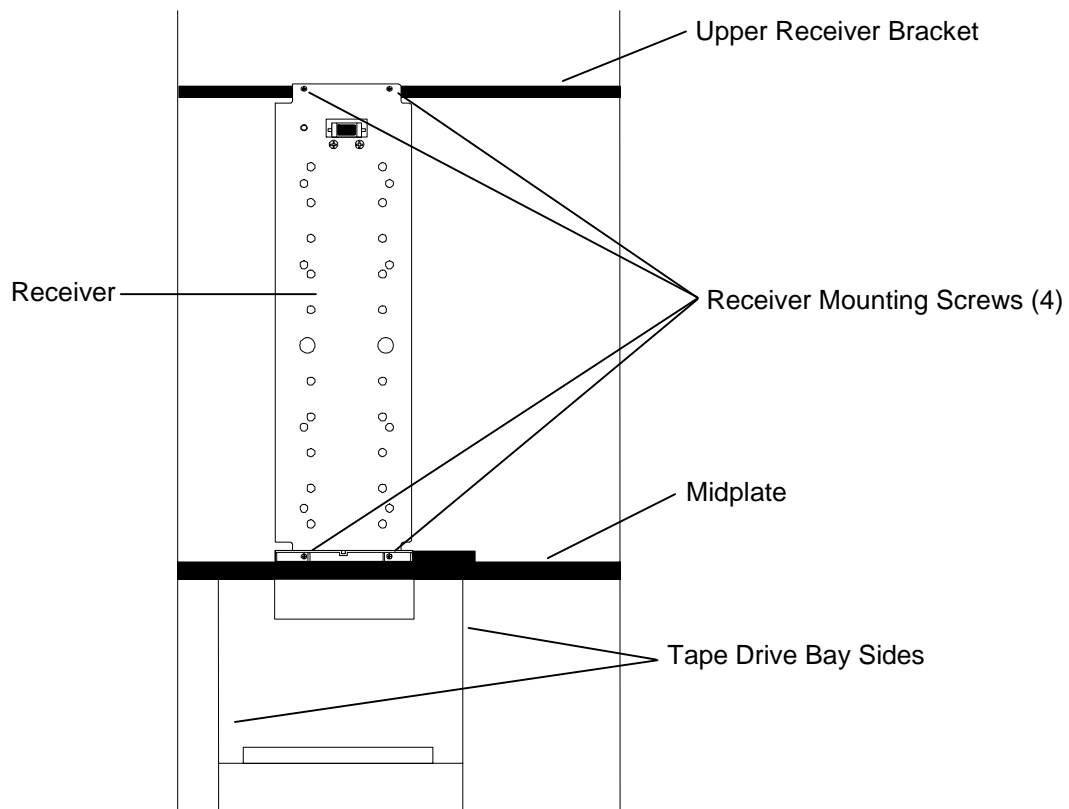

Figure 9-2 6210 Receiver
5. Remove the four Receiver mounting screws, then remove the Receiver and Anchor (Blue in color) (Figure 9-2).